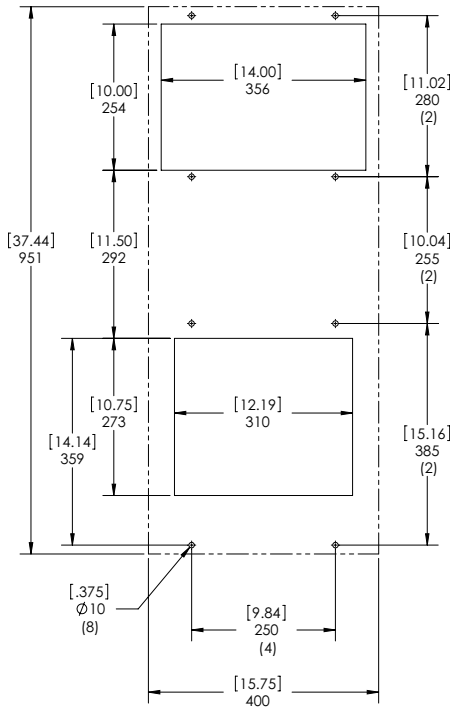
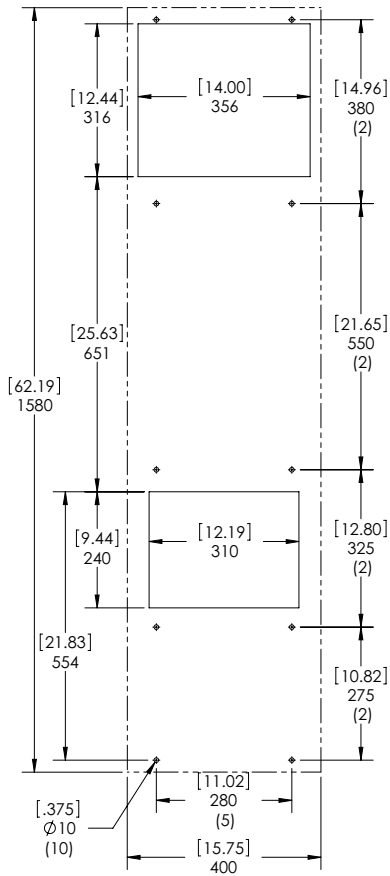
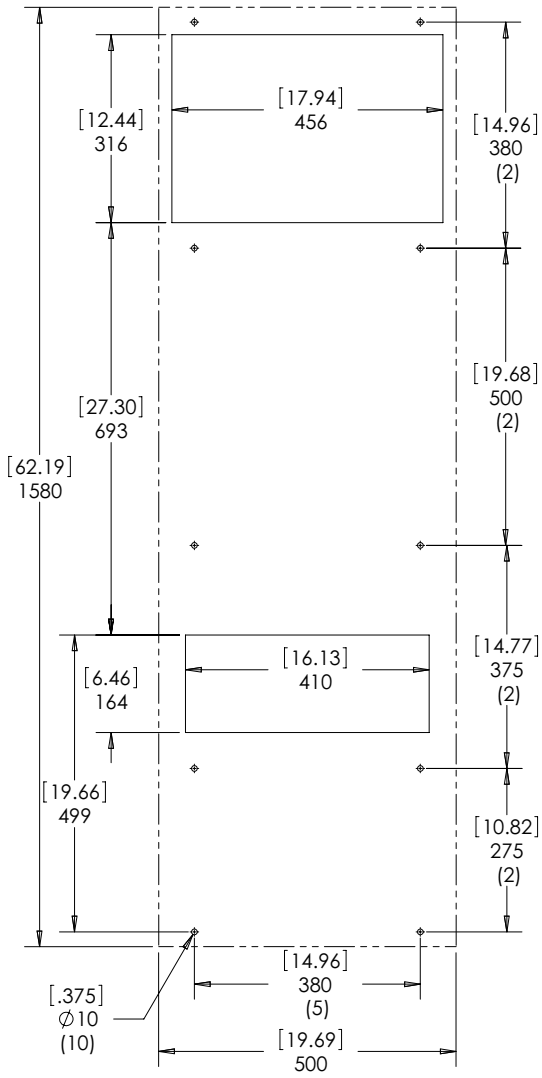

Figure 7
Figure 8
Figure 9
2. See Figure 5 or Figure 6 or Figure 7 or Figure 8 or Figure 9 for the enclosure cutout diagrams, depending on the unit being installed.